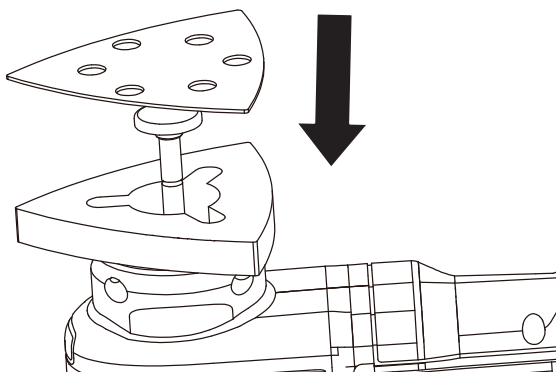

Figure 4
2. MOUNTING THE SANDING SHEET (SEE FIG. 4)